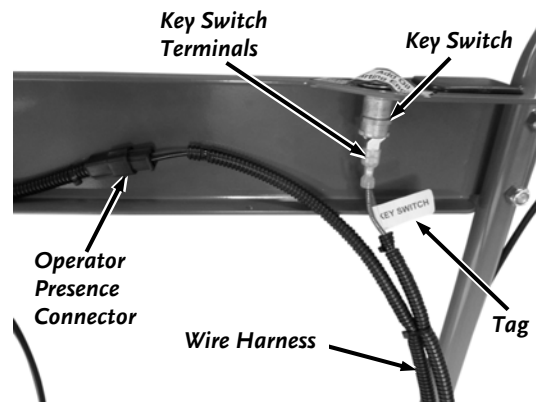

Figure 18
26. Electric Start models only: Plug the Key Switch Connectors (Connectors with red wires and a "Key Switch" Tag) onto the Key Switch Terminals (**Figure 18**). It does not matter which red Wire is connected to which Key Switch Terminal.